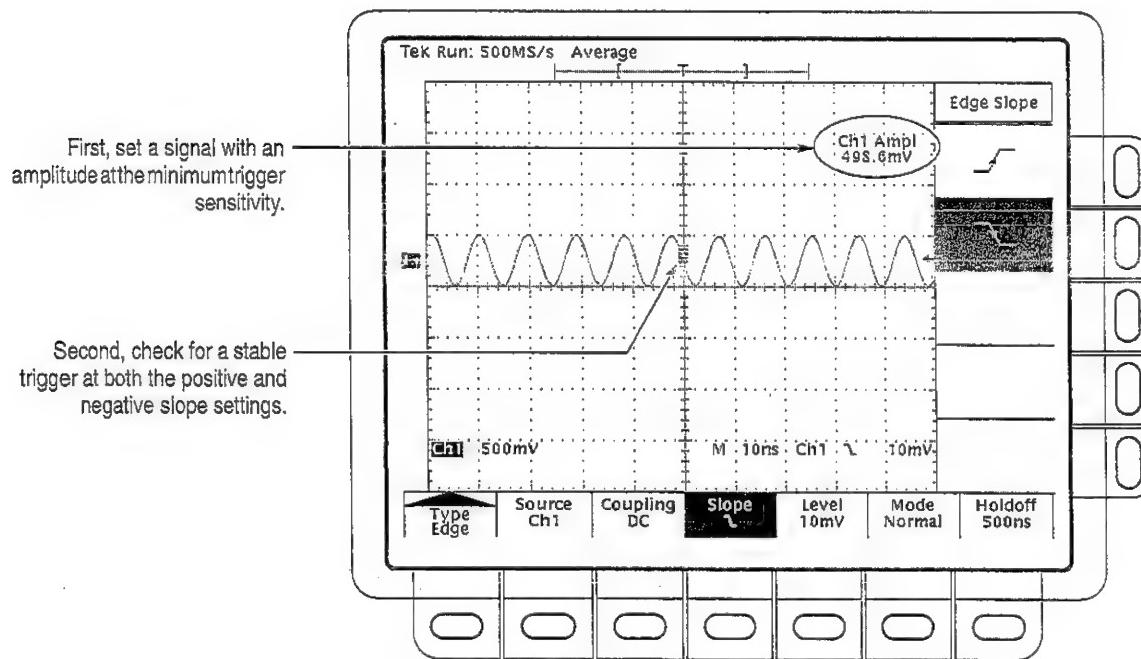

Figure B-7: Measuring trigger sensitivity
- 15.** Press **SET LEVEL TO 50%**. Check that a stable trigger is obtained for the test waveform on both the positive and negative slopes (see Figure B-7). (Use the side menu to switch between trigger slopes; use the trigger **LEVEL** knob to stabilize the trigger if required.)